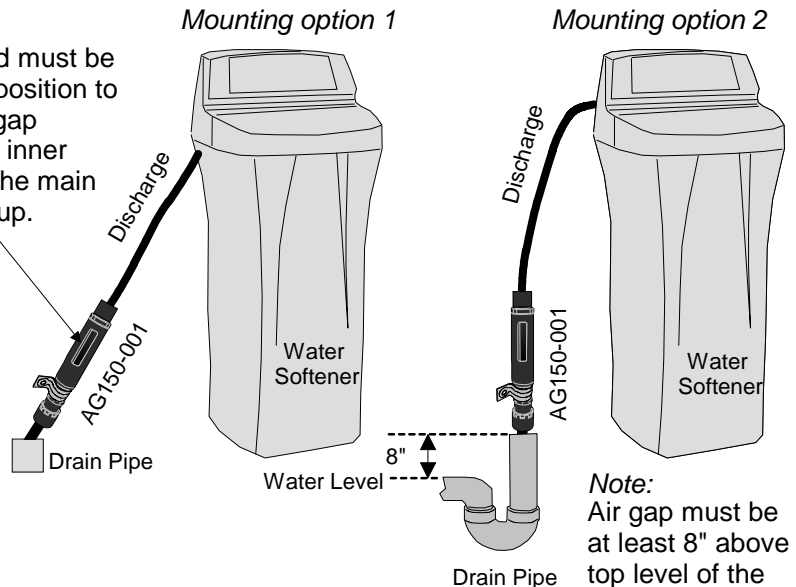

Fig 1-2
2. The AG150-001 is a gravity flow device and must have an outlet poly tubing feeding directly to a drain without kinks or bends. The AG150-001 can be oriented anyway between 45° and vertical with inlet port elevated above the outlet port. Install the AG150-001 so that the C/L is one inch or more above the flood level of sink, sump, floor drain, floor grate, or standpipe. (See FIG 1-2)